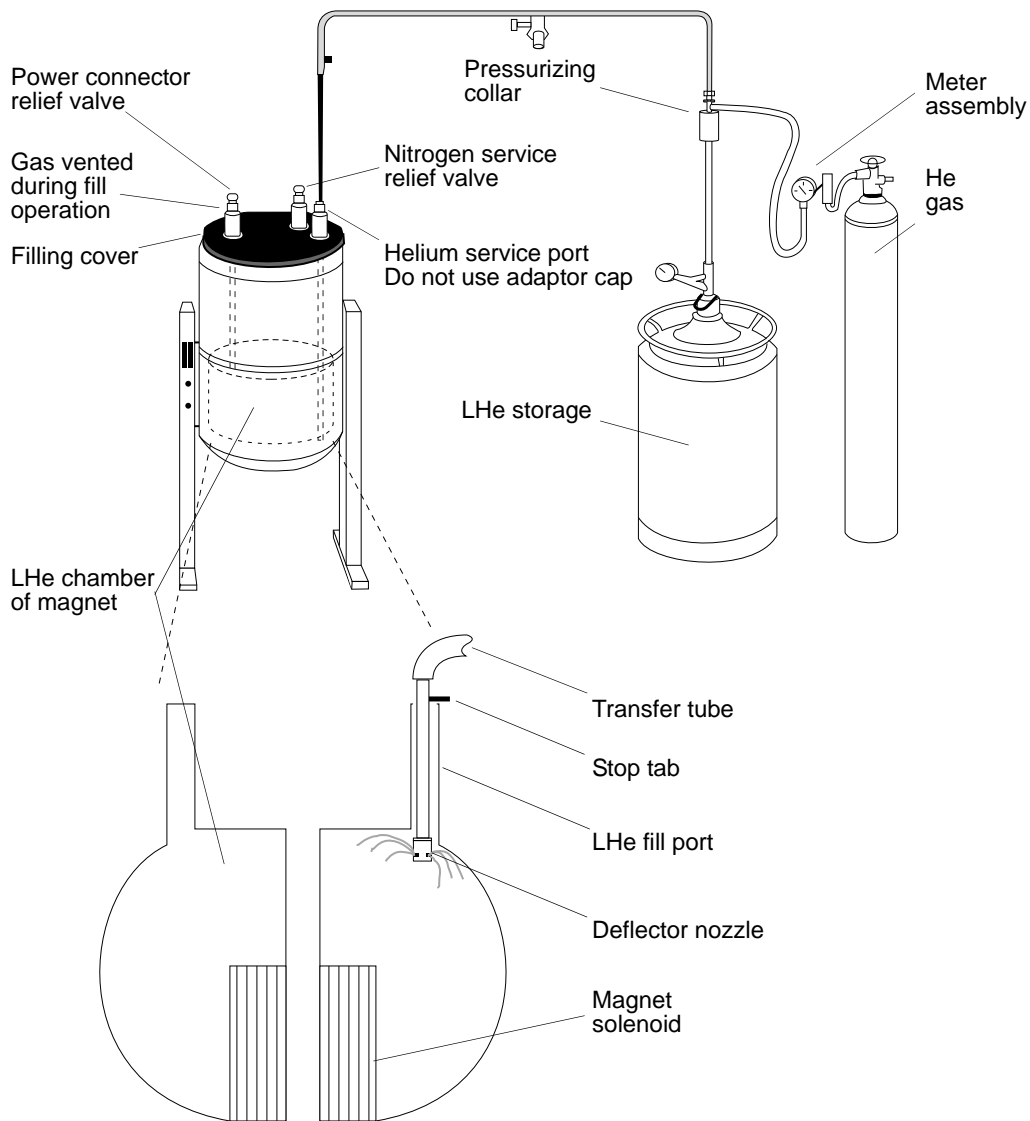

Figure 20. Routine Filling of the Magnet Dewar
9. Pull the transfer tube up enough to clear the magnet dewar. Remove the HELIUM SERVICE filling port cap. Swing the transfer tube over the magnet and immediately insert it slowly into the magnet LHe access port and the storage container simultaneously (see Figure 20). As a guide, use 10 to 15 seconds for insertion up to the stop tab.